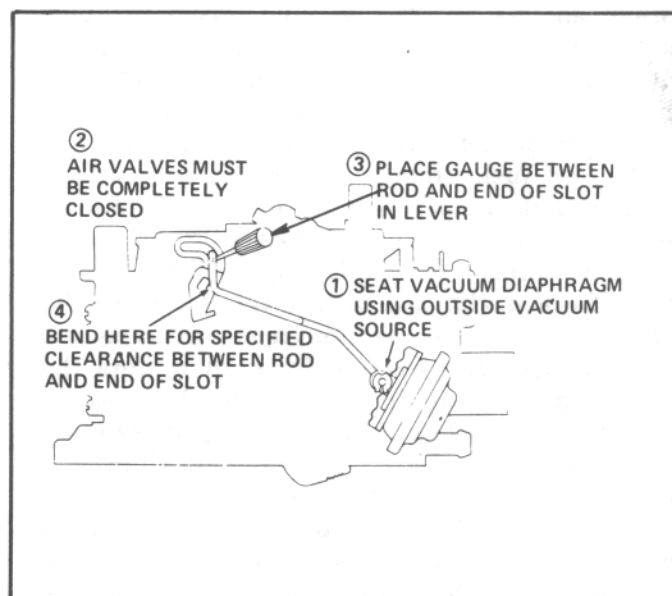

Fig. 50. Air Valve Dashpot Adjustment
2. With choke diaphragm seated and air valve fully closed, measure the distance between the end of slot in vacuum break plunger lever and air valve. Measurement should be .030 (See Fig. 50).